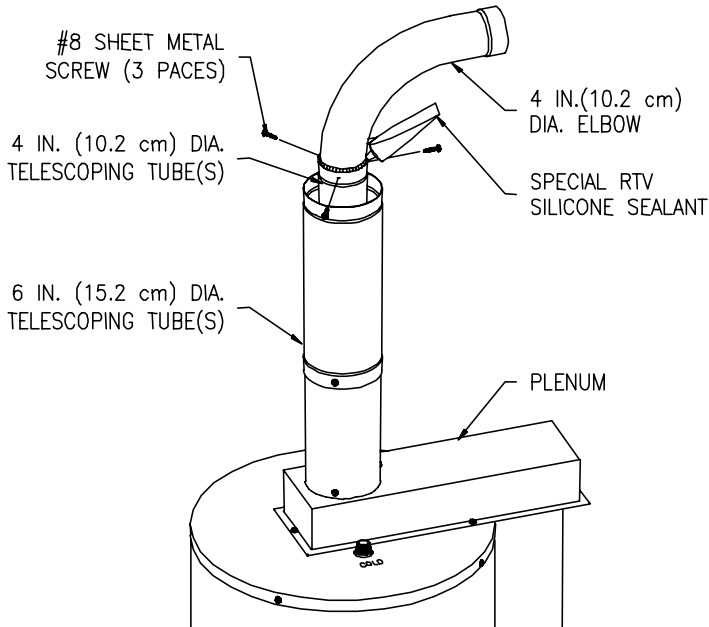

Figure 8
7. Insert the straight end of the four (4) inch (10.2 cm) diameter elbow one (1) inch (2.5 cm) (*or until seated*), into the end of the four (4) inch (10.2 cm) diameter telescopic tube(s). Make sure the four (4) inch (10.2 cm) diameter elbow is oriented in the correct direction. Drill three (3) 1/8 inch (3.2 mm) diameter holes, 120° apart, through the four (4) inch (10.2 cm) diameter telescopic tube(s) into the four (4) inch (10.2 cm) diameter elbow. Fasten with three (3) #8 sheet metal screws (supplied). Using the supplied RTV silicone sealant, apply a sufficient amount to seal the joint. (See Figure 8).